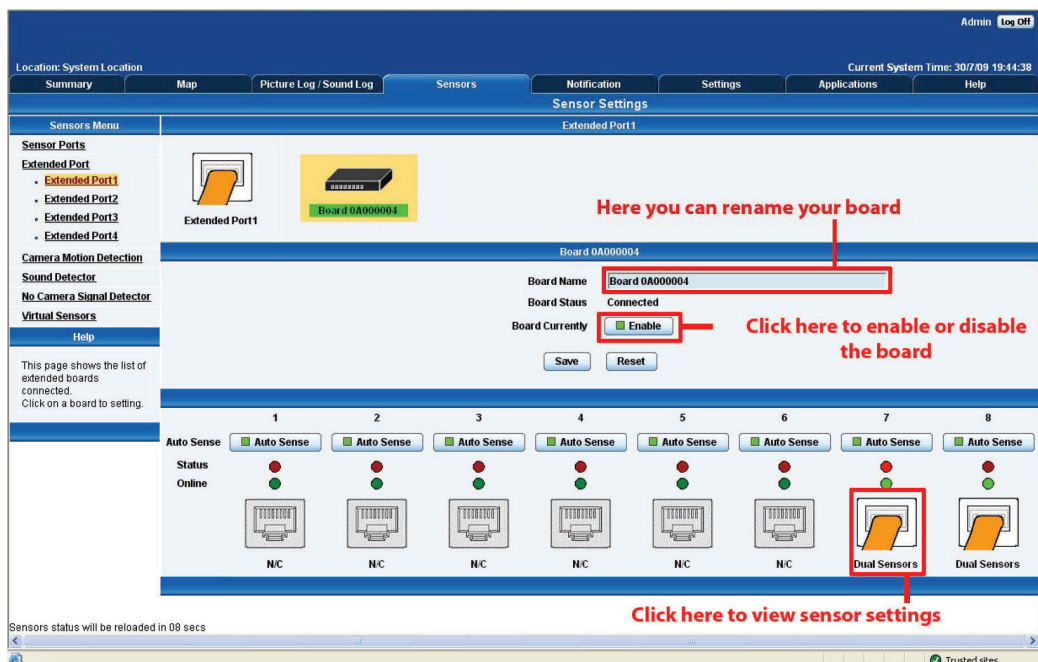

Figure 3-65. Extended Port Sensors page.
4. This will bring you to the Extended Port Sensors page (see Figure 3-65).